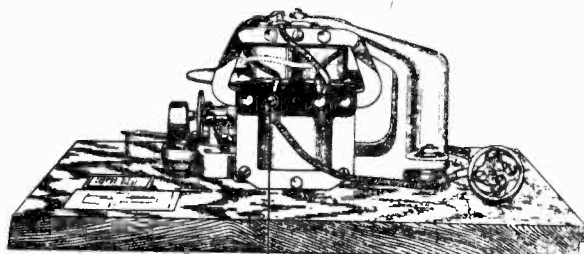

Fig. 3
- Disconnect the wires from the 110 volt terminals shown in Figs. 3 and 4.